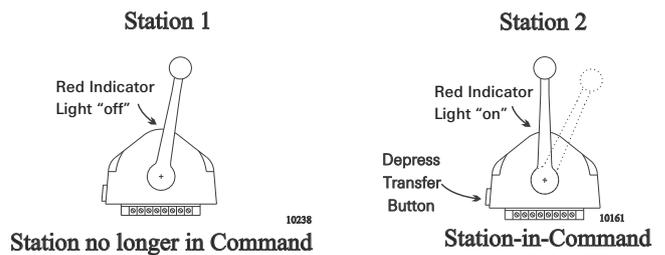

Figure 2-4: Remote Station Transfer after Transfer of Command
- C At the Station taking command (Receiving Station), depress and hold the transfer button for 1/2 second (refer to Figure 2-4: Remote Station Transfer after Transfer of Command).